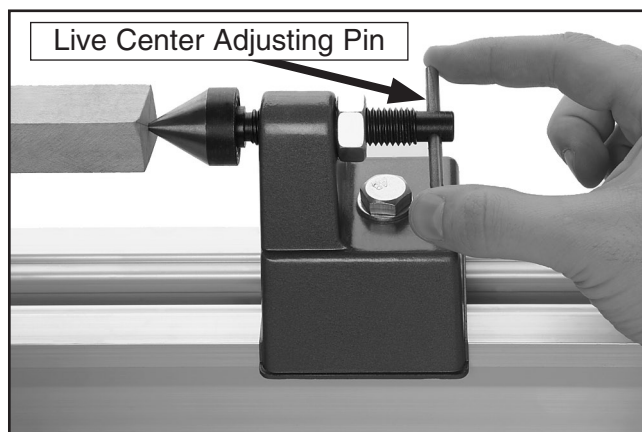

Figure 13. Clamping the workpiece to the tailstock.
10. With your workpiece suspended loosely between the spur and live center, turn the live center adjusting pin clockwise, as shown in **Figure 13**, until the workpiece is held firmly.